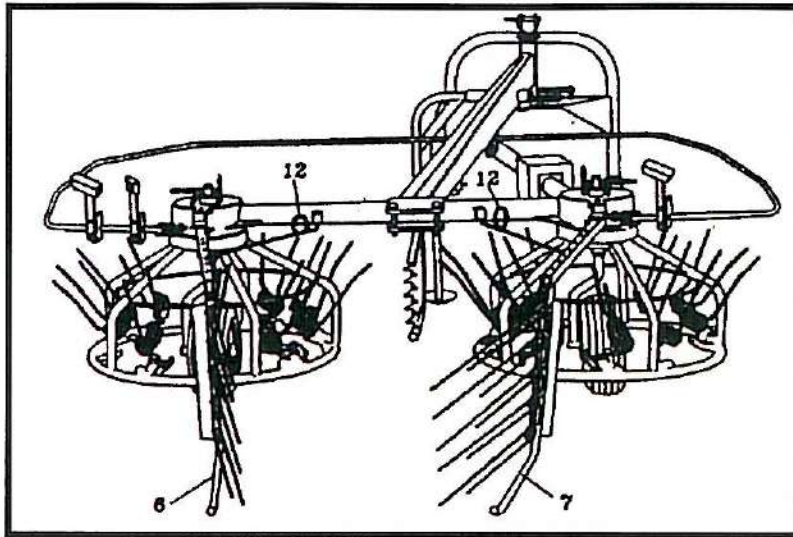

Fig. 17. Setting the screens for raking.
- Set wanted width of raking with screens 6 and 7 and stops 12 (Fig. 17.)